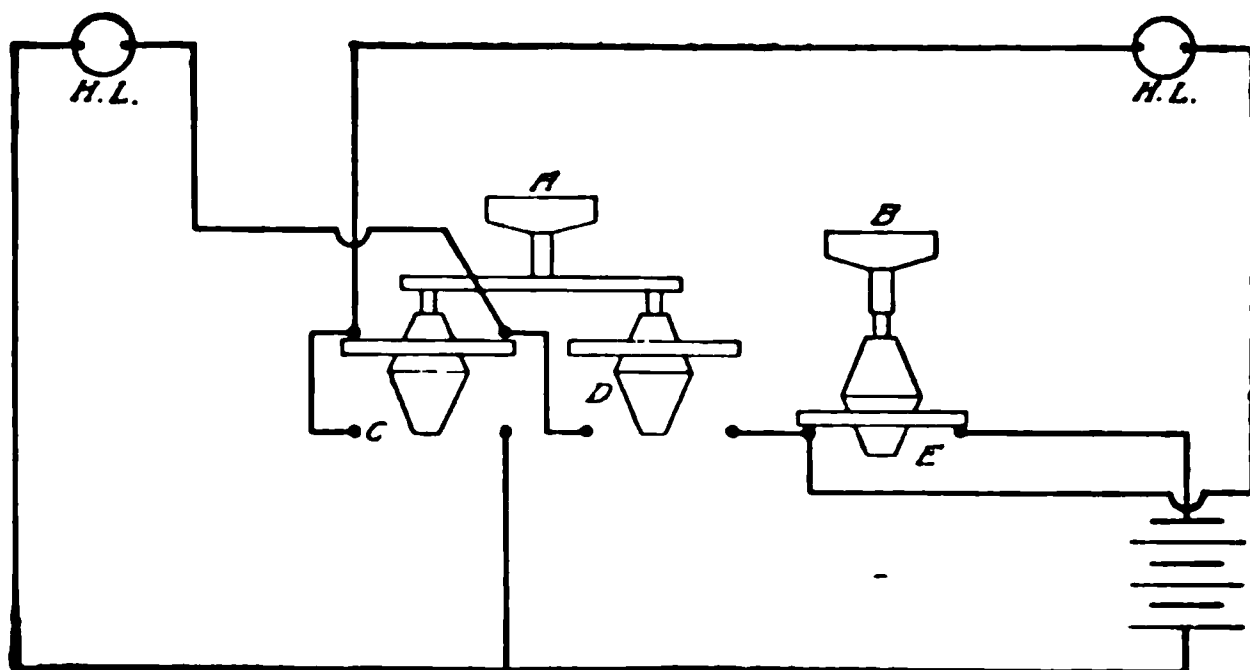

Fig. 192. Wiring Diagram of Series Control for Dimming Headlights
**CONNECTIONS.** Fig. 192 shows the connections for series burning, effected by pulling out button 3 and pushing in 4, this closing switch 2, opening 1 and connecting 1 with the upper connections.